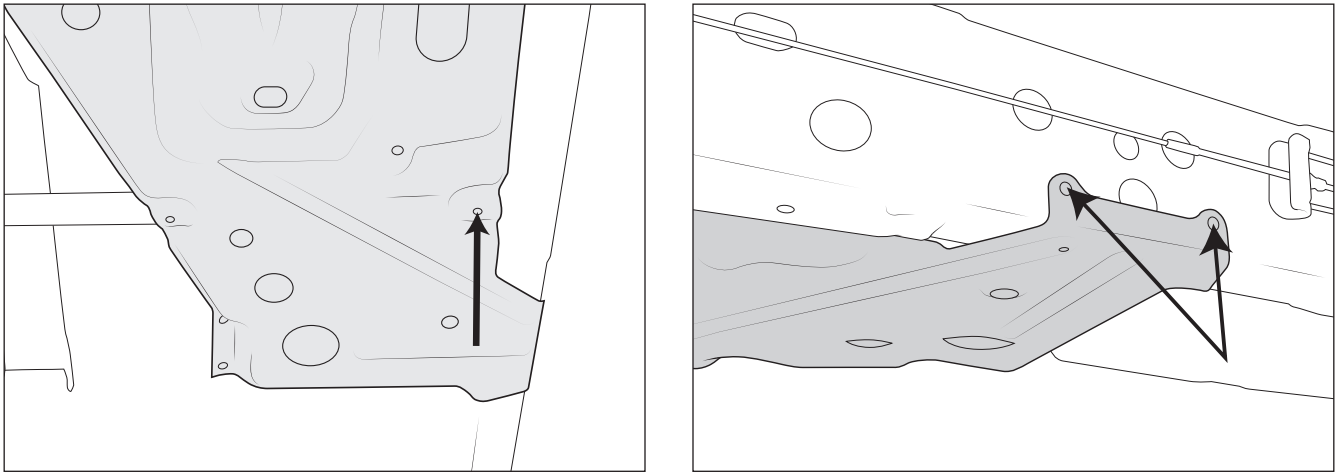

Figure 3 Mark Holes for Drilling.
- D. Mark hole location on tubular cross-member, and two hole locations on the outside of the driver-side frame rail (fig. 3).